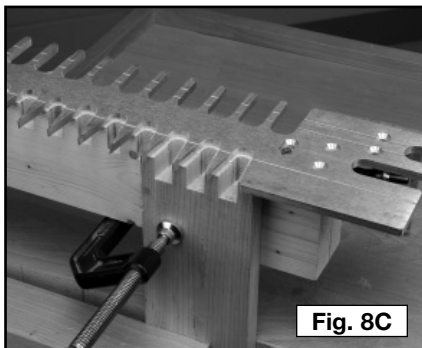

Fig. 8C
Step 5 - Connect your router to the power source and cut the pins (Fig. 8C).